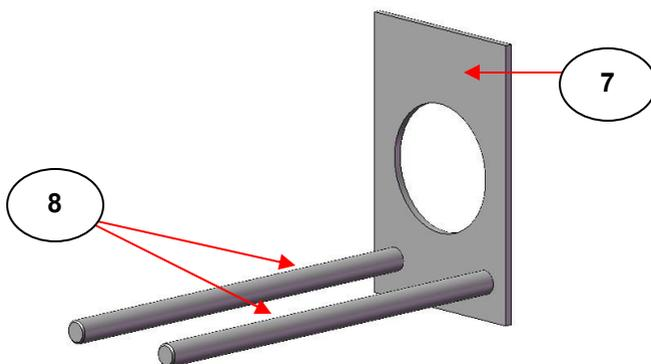

Fig 2. Gas Cell Mount P/N GS05030
When windows have been fitted, the Storm™ 10 gas cell is placed into the sample compartment of an infra red spectrometer system using the gas cell mount P/N GS05030. This is a 3" x 2" metal plate (7) with two elongated support prongs (8). (See Fig 2.)